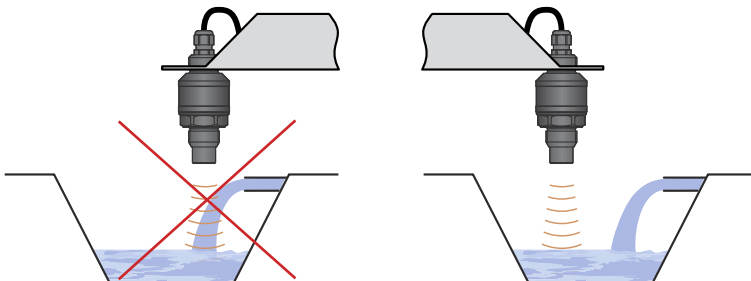

Fig. 8: Installation of the device out of reach of filling circulation
- Do not install the device in or above the filling point (Fig. 8). The measurement could be affected by the inflowing medium.